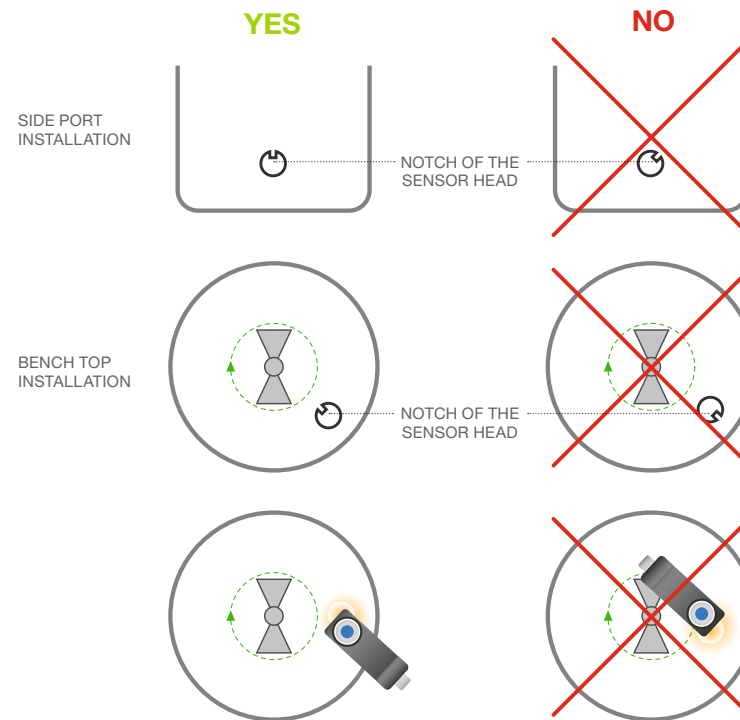

Figure 23: Mounting position of the Pre-amplifier.
- Verify the sensor orientation to make sure that the Pre-amplifier can be mounted conveniently. The orientation notch of the sensor head is oriented opposite to the Pre-amplifier cable (Figure 23).
5. Chart A is displayed per default on the main graph (Figure 23). Chart B is shown in the lower left corner. Press the Exchange Chart Button (Figure 23) to switch the display of the two charts. Chart B is not visible if the Incyte Scan mode is activated. It may be exchanged with Chart A on the Main Graph using the Exchange Chart Button.